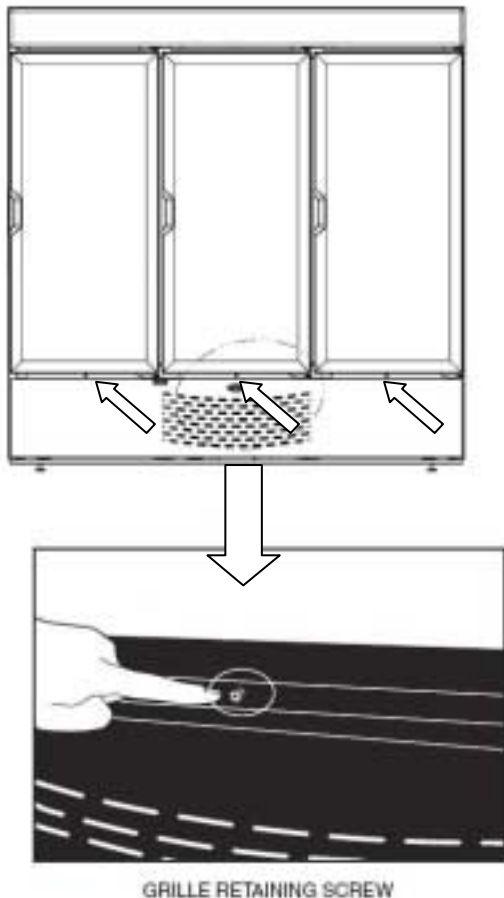

FIGURE 2 – REMOVE FRONT GRILLE
Remove skid base by removing the retaining screws (8 hex head bolt screws). Refer to Figure 2 to remove the front grille and gain access to skid retaining screws. If optional casters will be used, unit must be located on flat, level surface. Refer to Table 1 for a list of standard parts.
1. After disconnecting the unit from the power supply, remove the grille retaining screw located in the upper-most part of the grille. (See Figure 2)